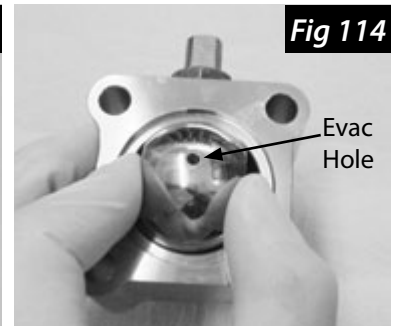

Fig 114
9. Align the valve stem with the notch in the ball and carefully drop the ball into the valve center section, being sure the evac hole is facing up (Fig 114).